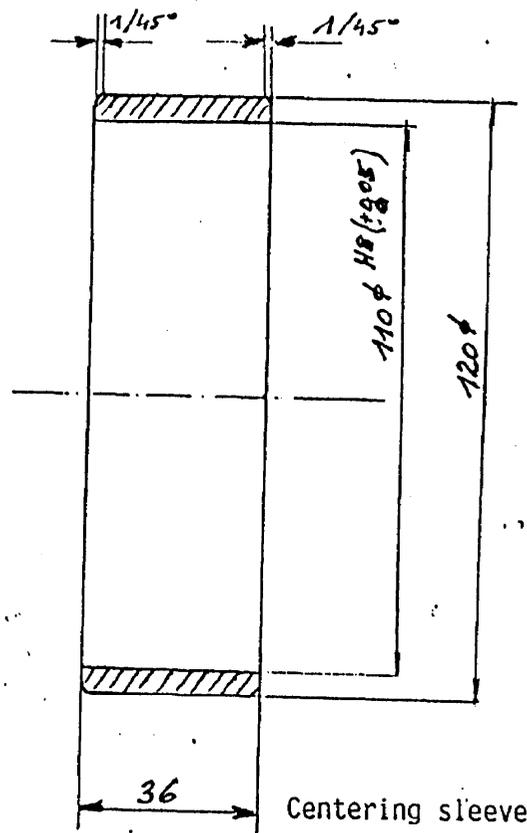

Fig. 4
- 2.7. Place centering sleeve (fig. 4 on page 5) over armature plate, push coils outwards and tighten screws.